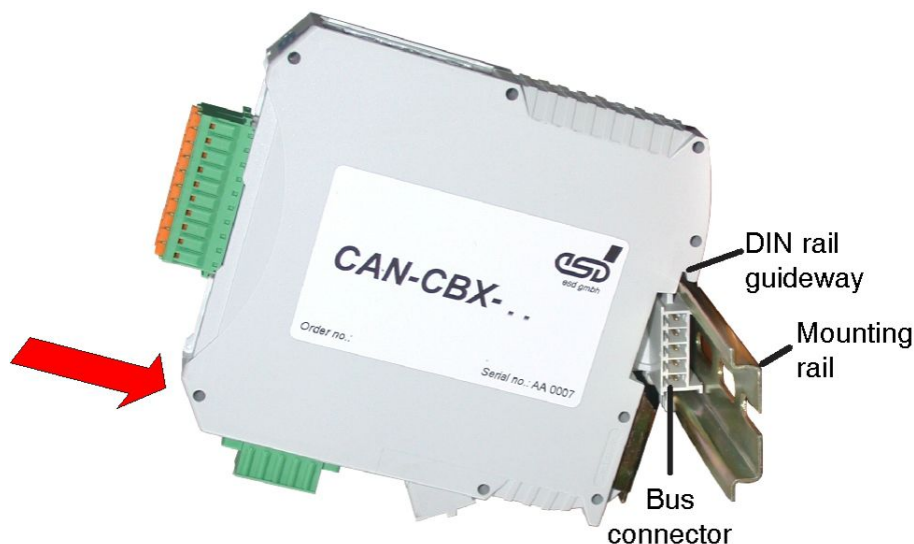

Figure. 51: Mounting CAN-CBX modules
3. Swivel the CAN-CBX module onto the mounting rail in pressing the module downwards according to the arrow as shown in figure 51. The housing is mechanically guided by the DIN rail bus connector.